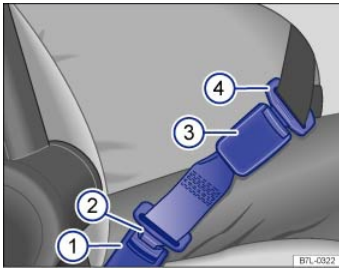

Fig. 61 A safety belt extender properly attached to the factory-installed safety belt.
Key to ⇒ Fig. 61 :
- Insert the buckle tongue on the safety belt extender ⇒ Fig. 61② into the vehicle belt buckle for the seat where the safety belt extender is being used ⇒ Fig. 61①.